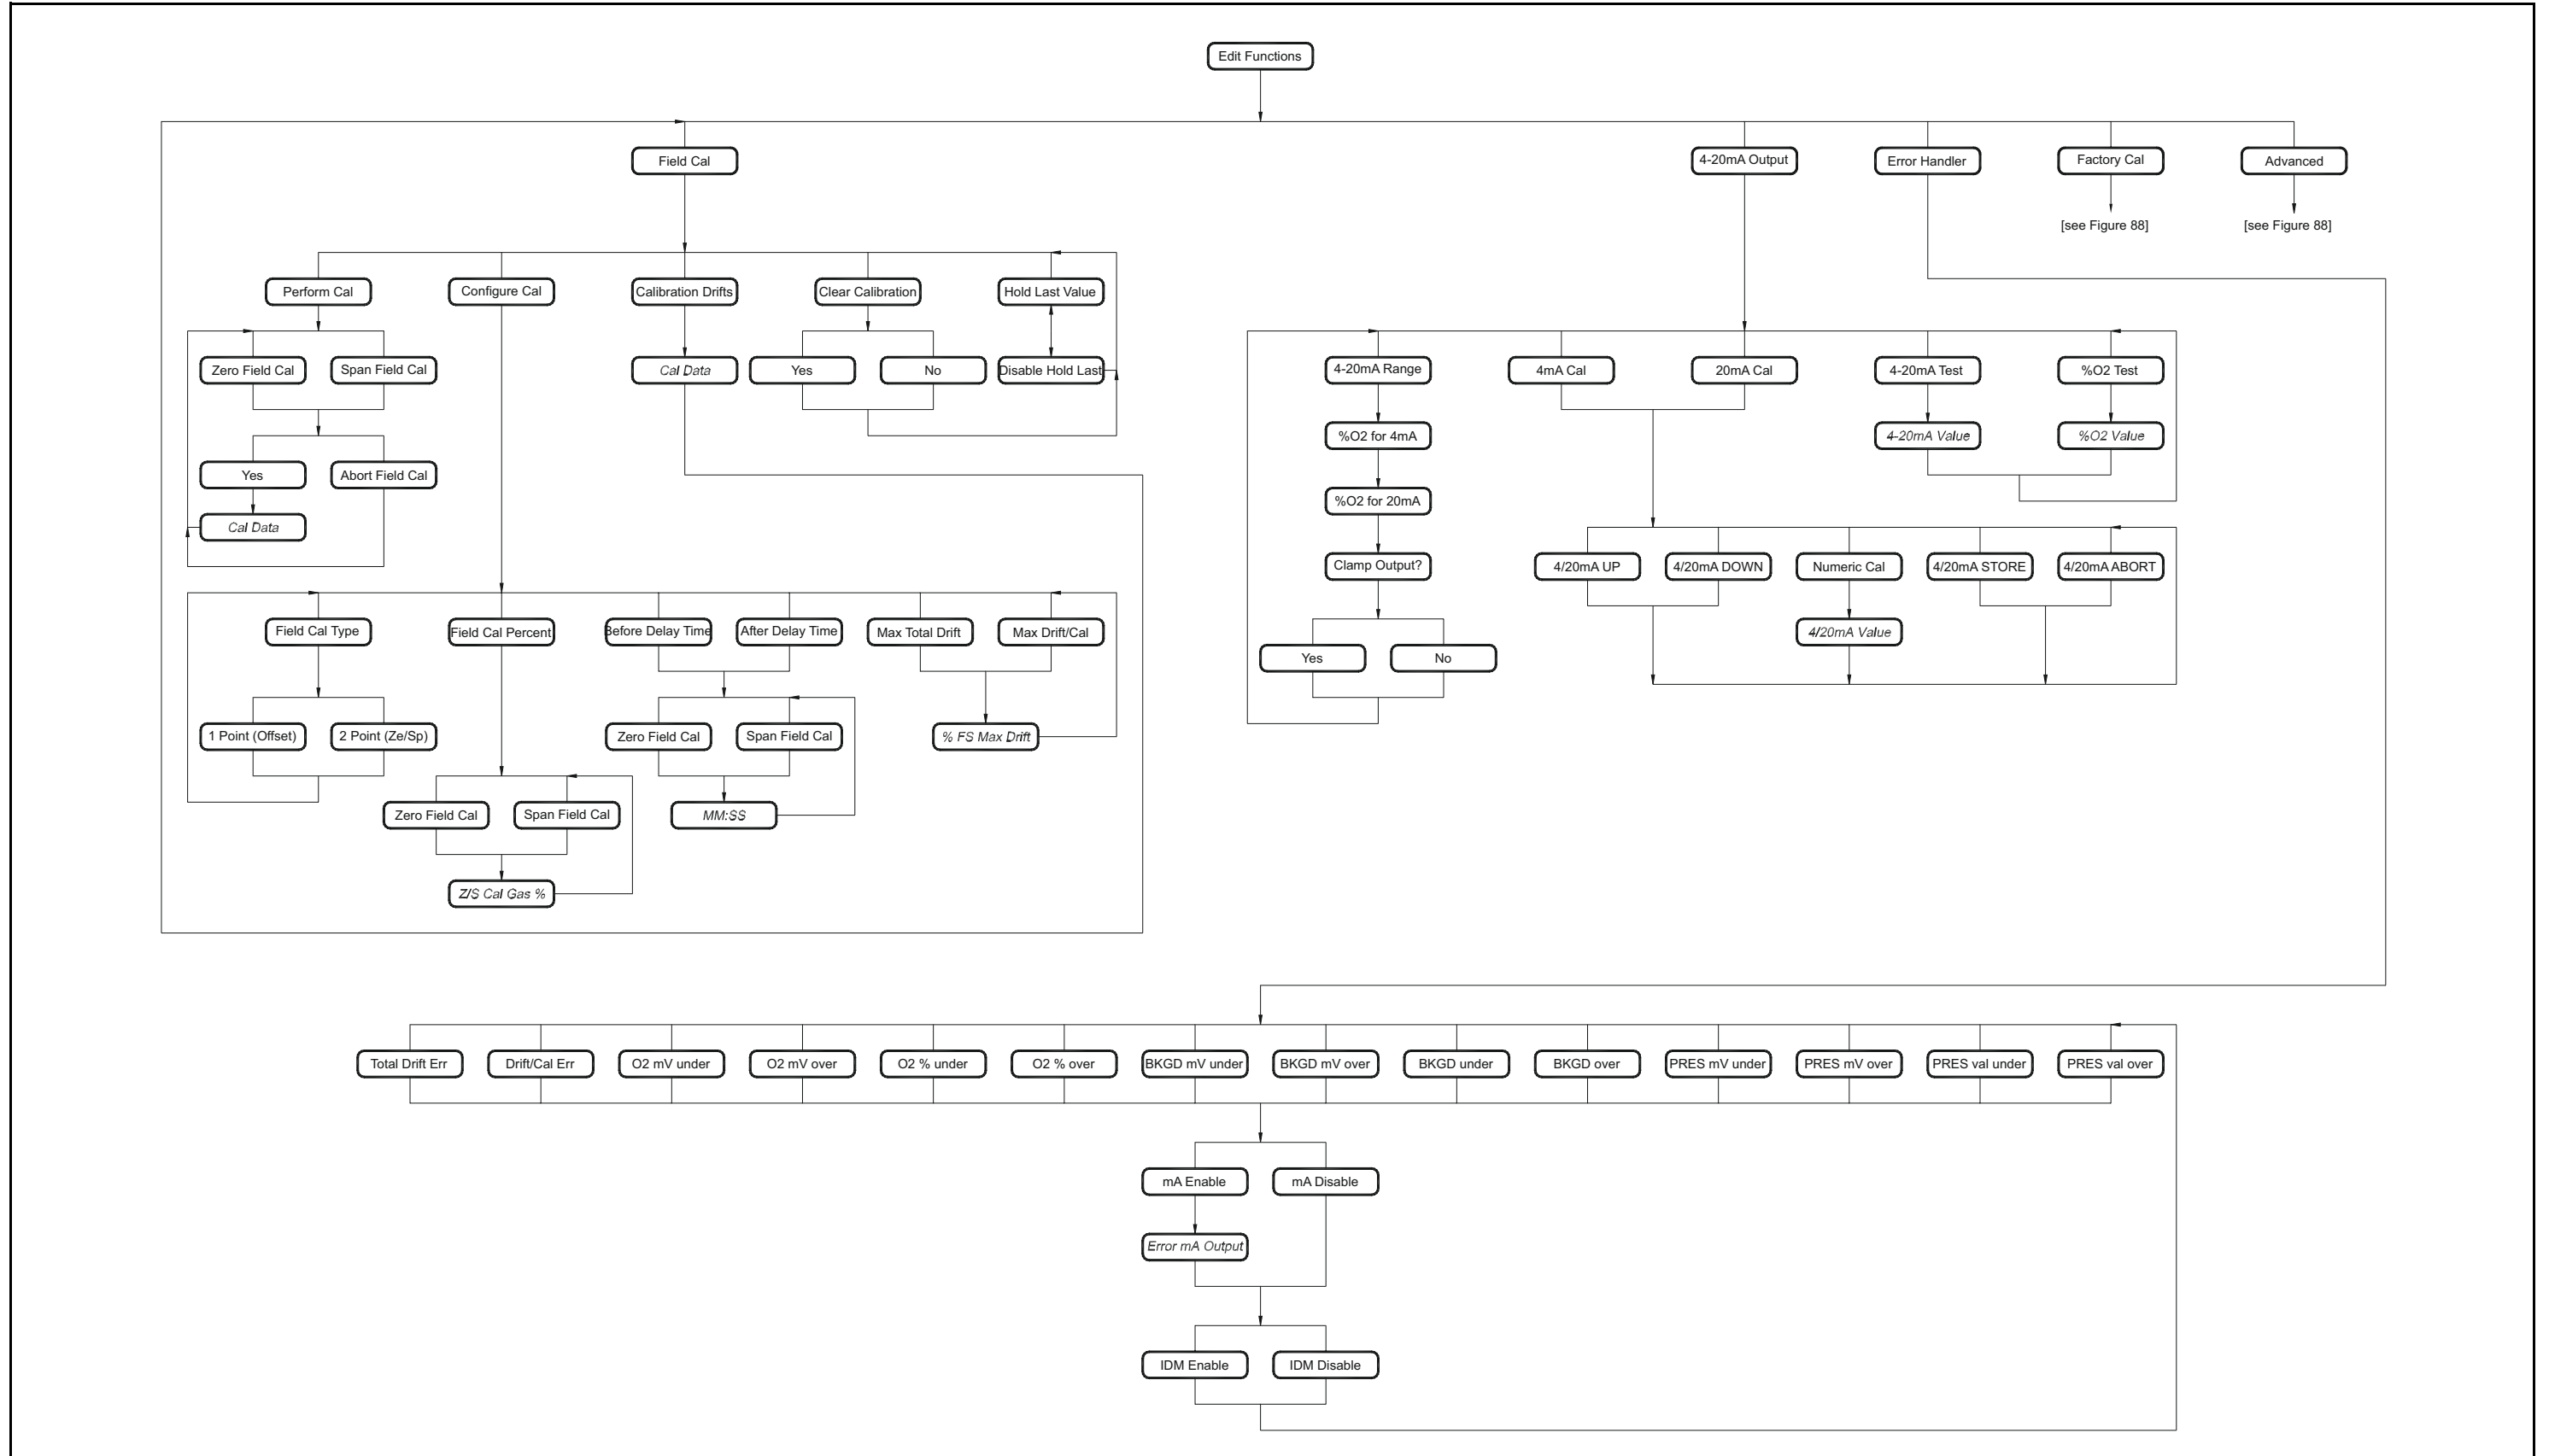
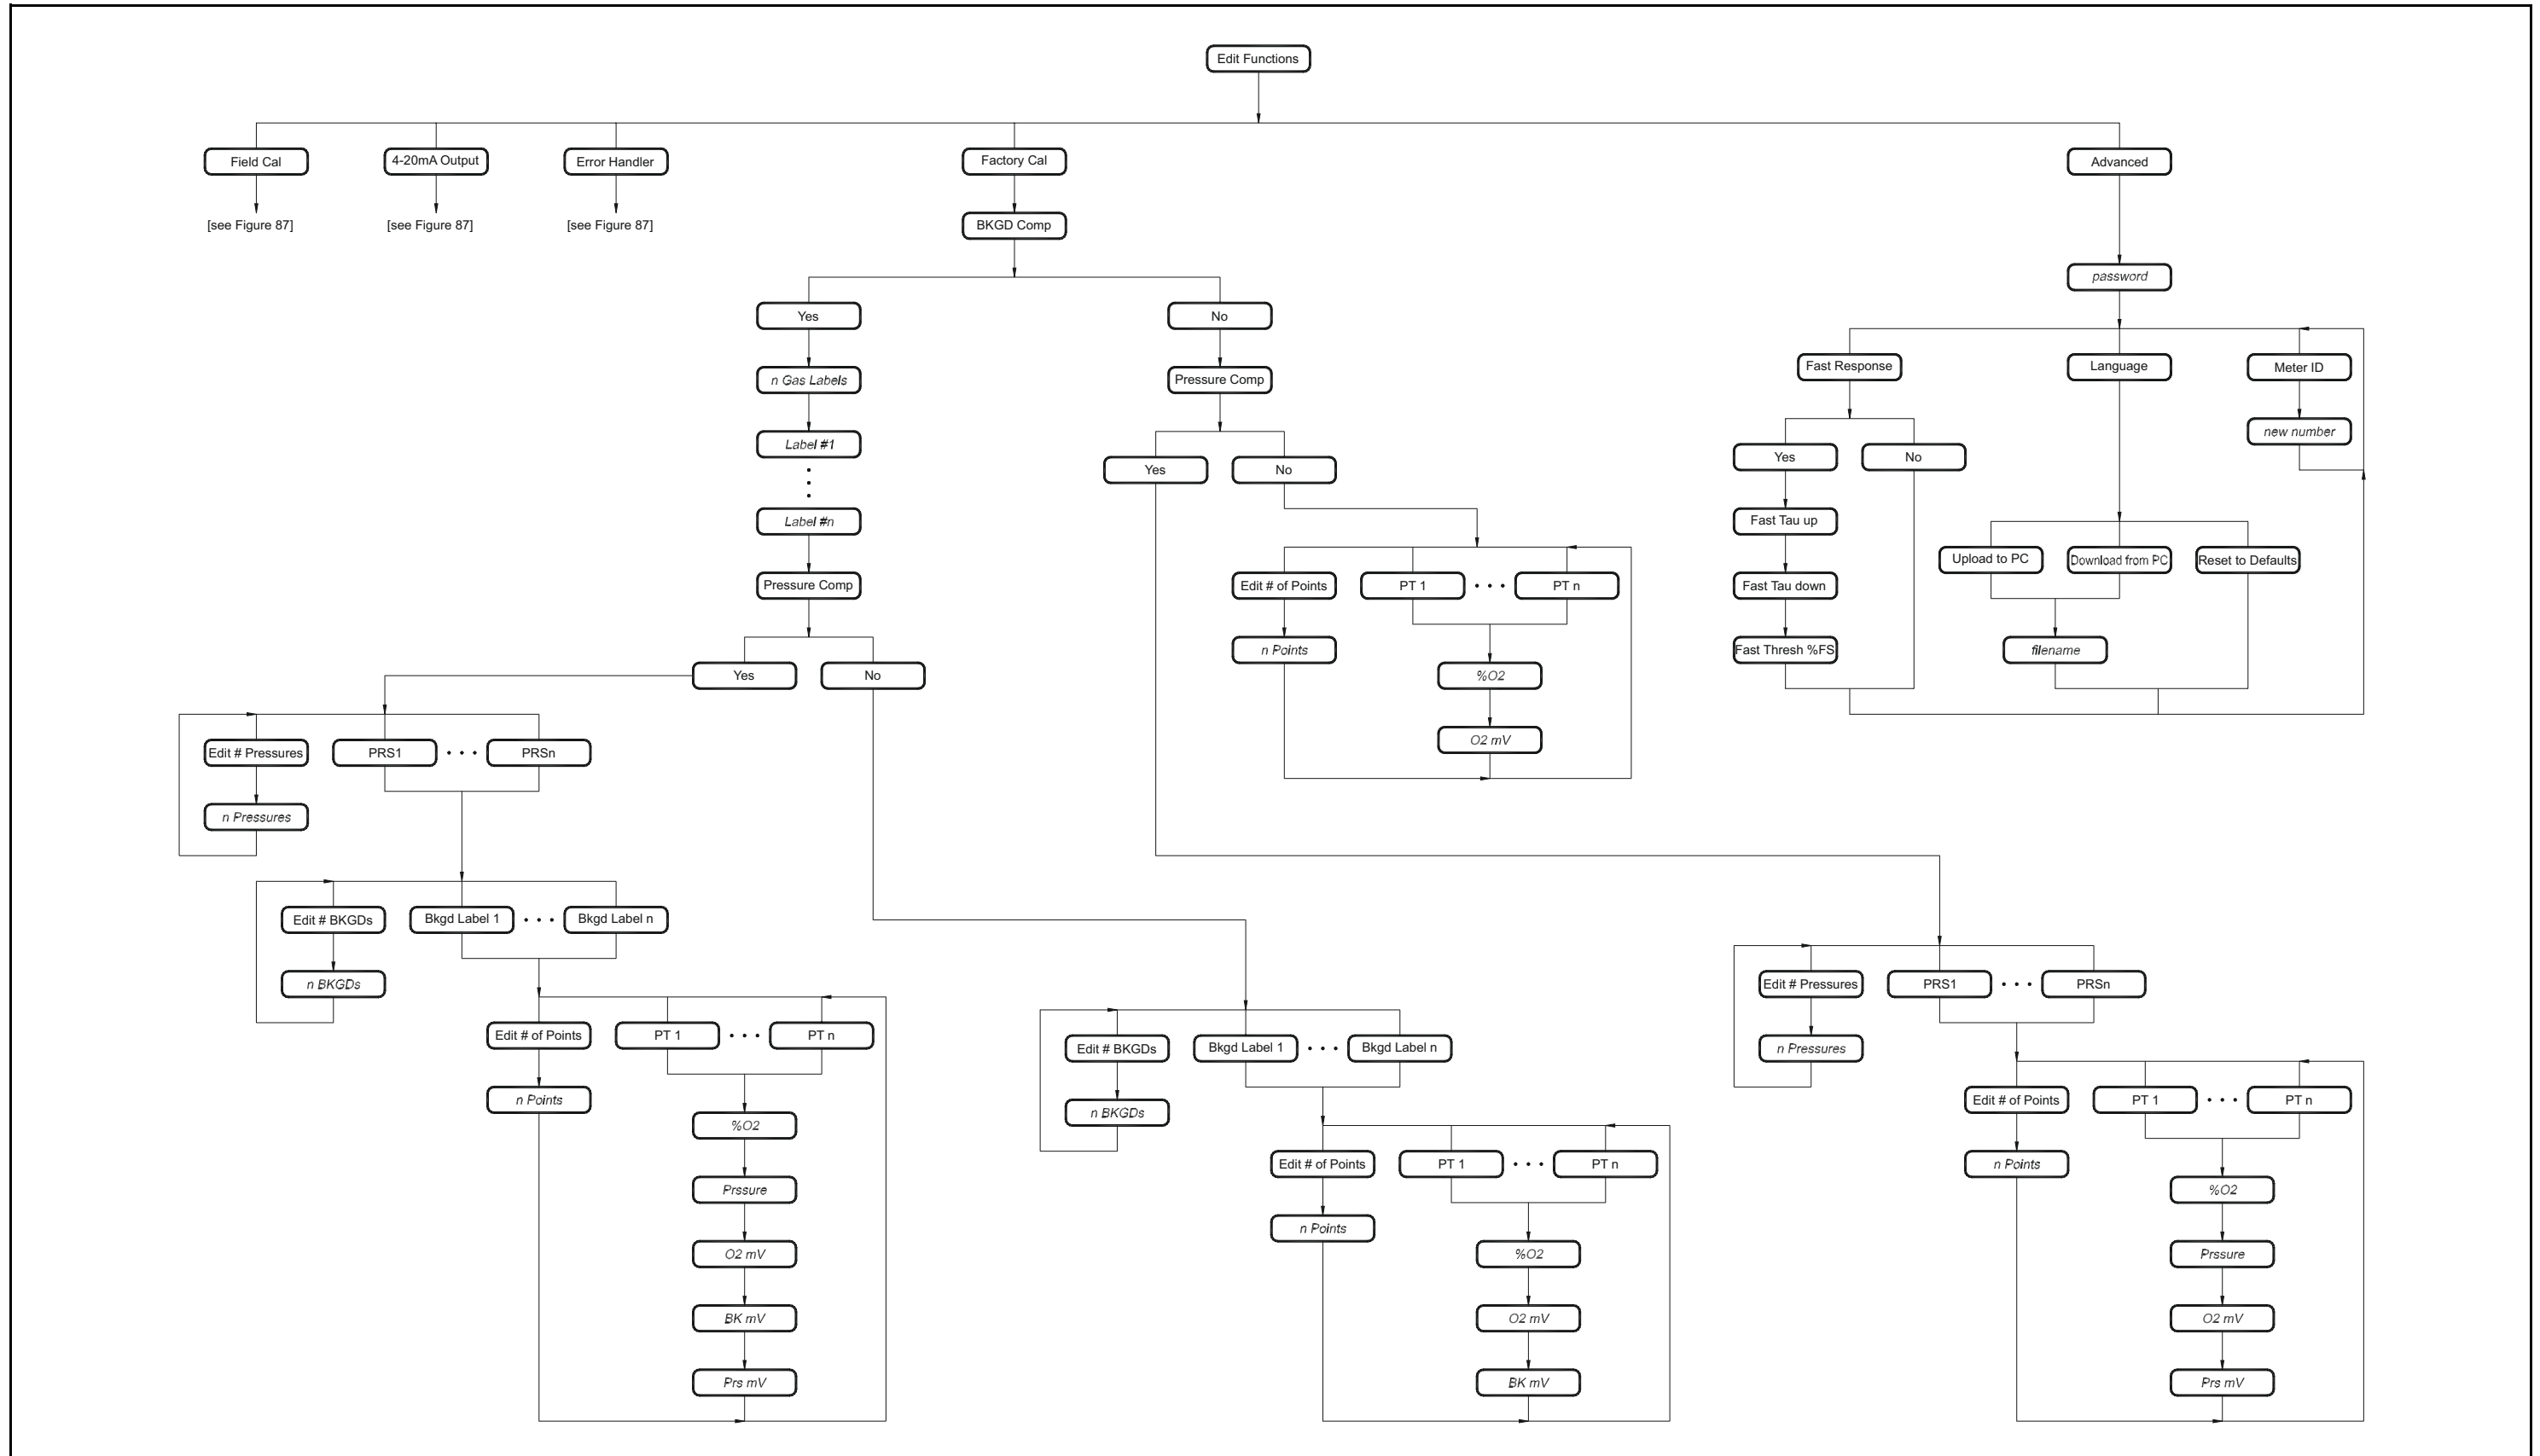
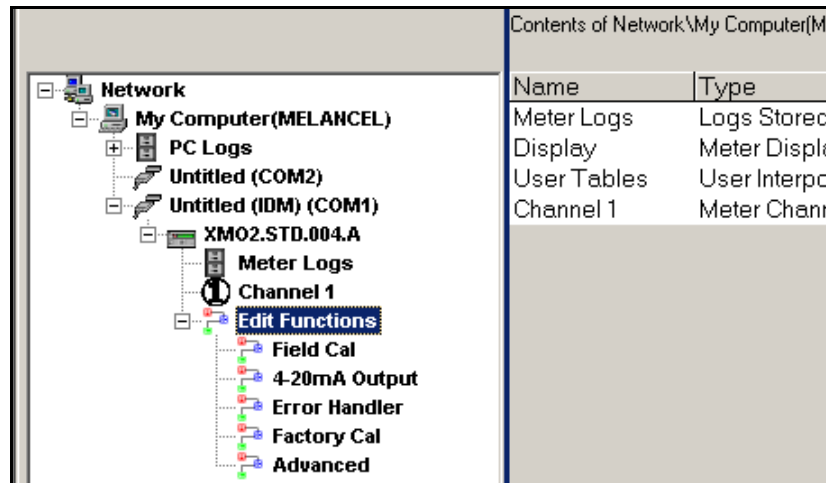

Figure 75: Field Cal, 4-20mA Output and Error Handler Menu Map
Figure 76: Factory Cal and Advanced Menu Map
Figure 84: Meter Tree with *Edit Functions* Option
- Figure 75, “Field Cal, 4-20mA Output and Error Handler Menu Map,” on page 87
- Figure 76, “Factory Cal and Advanced Menu Map,” on page 88
- From the meter tree, expand the *Edit Functions* option. The window now appears similar to *Figure 84* below, with a list of available menus. The five menus listed are those available through the IDM interface, as discussed in Chapters 3 and 4. Refer to the menu maps on *Figure 75 on page 87* and *Figure 76 on page 88* as a guide to programming.